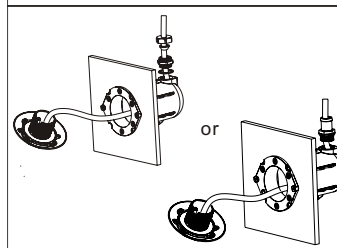

Figure 6
- Wrap extra cables behind the light to make sure it could be taken to the pool surface for future maintenance .Then tighten the nut or line pipe joint (Figure 6).